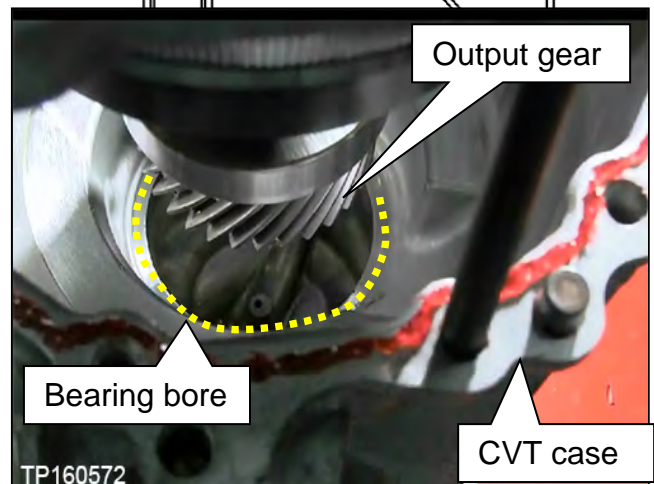

Figure 24E
- While visually looking down into the bore (Figure 24E) to confirm that the output gear is clearing the CVT case bearing bore,
- If the sub-assembly will not lower any farther than 50 mm (2 inches) the output gear has not cleared the bearing bore (Figure 24E).